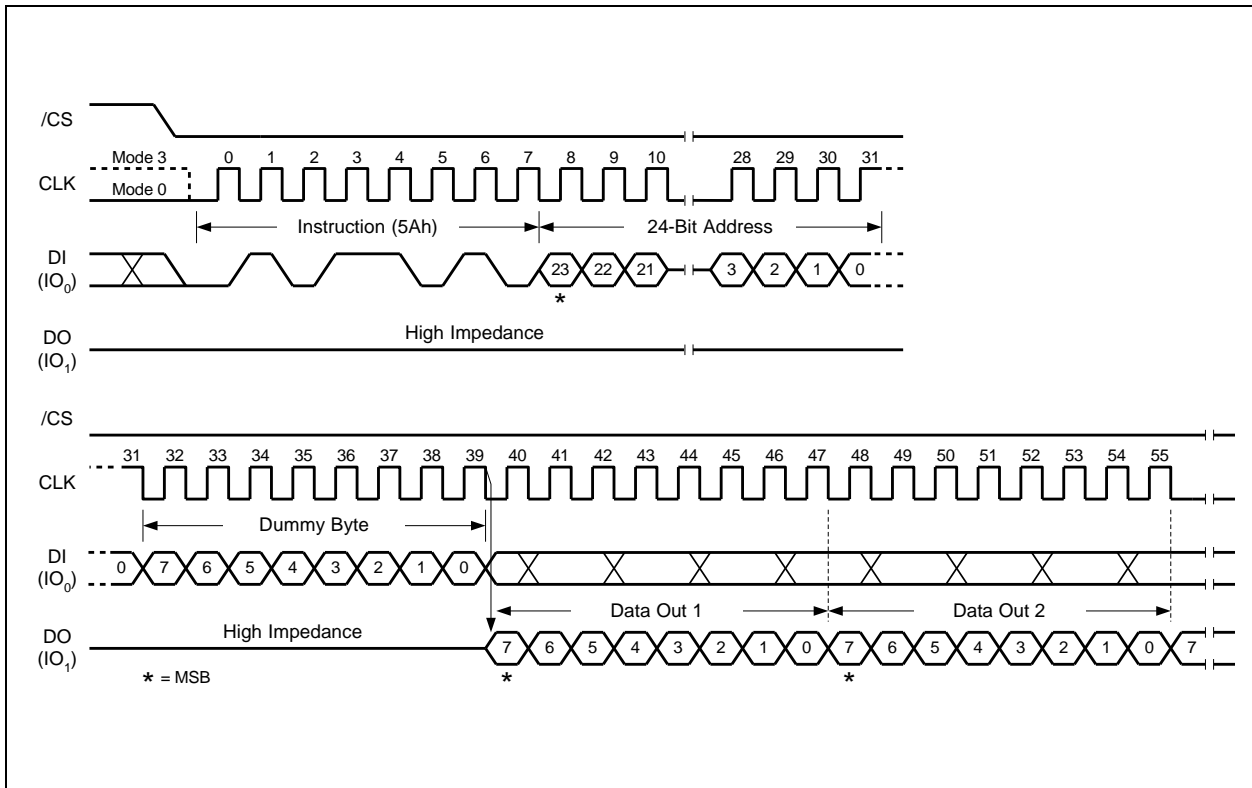

Figure 34. Read SFDP Register Instruction Sequence Diagram (SPI mode only)
The Read SFDP instruction is initiated by driving the /CS pin low and shifting the instruction code “5Ah” followed by a 24-bit address (A23-A0)(1) into the DI pin. Eight “dummy” clocks are also required before the SFDP register contents are shifted out on the falling edge of the 40th CLK with most significant bit (MSB) first as shown in Figure 34. For SFDP register values and descriptions, please refer to the Winbond Application Note for SFDP Definition table.